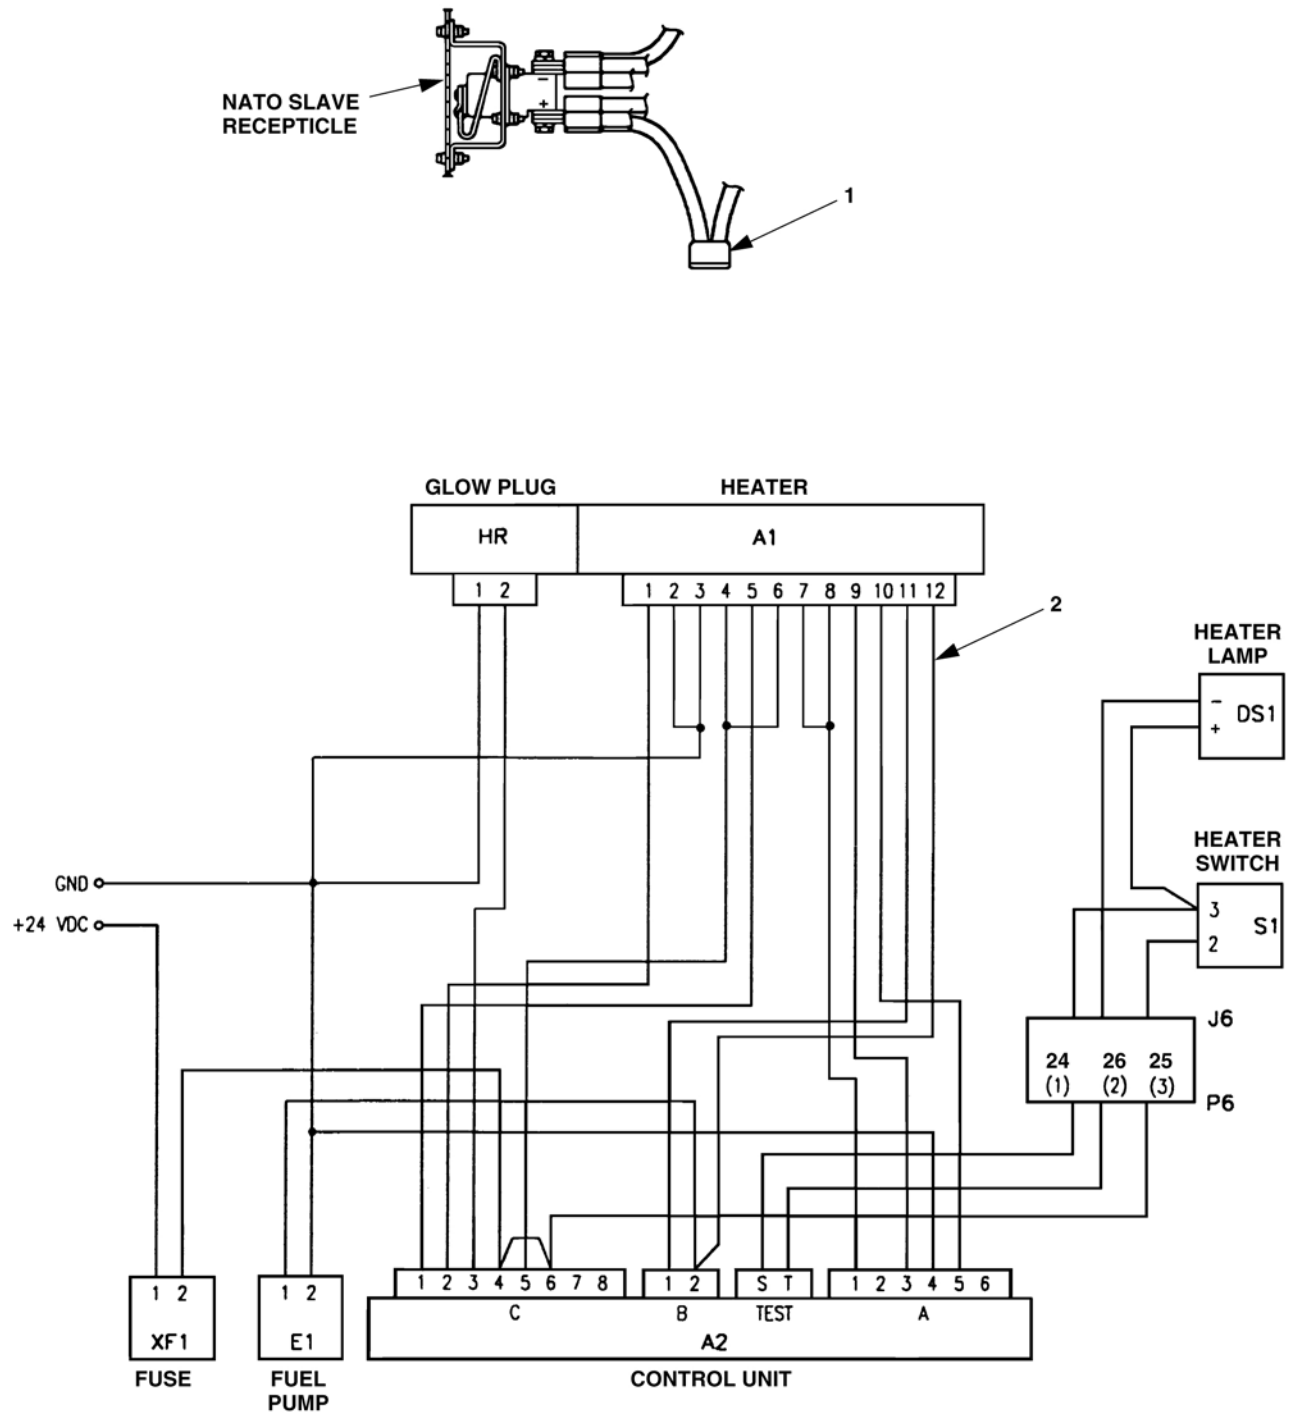
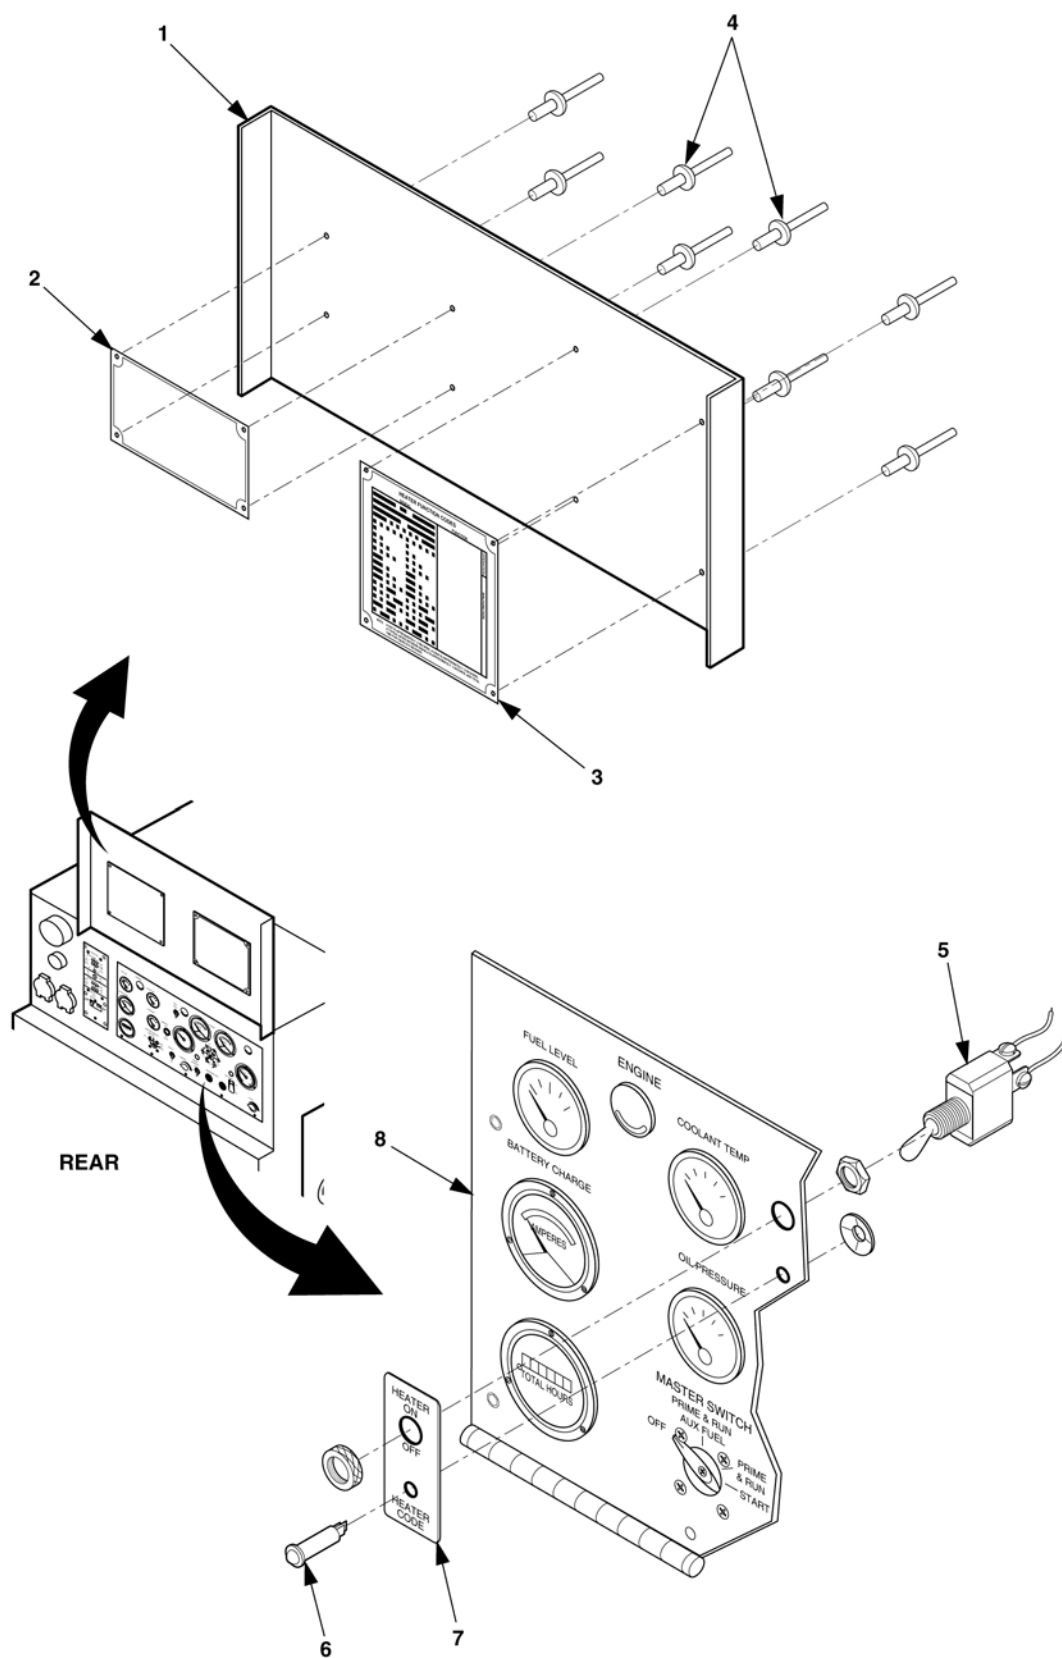

Figure 5-10. Fuse and Wiring Harness.
Figure 5-11. Cover and Instrument Panel.
45. Remove pins from P6-24, 26, and 25, Figure 5-10.
46. Install wiring harness (2), and include ground cable in accordance with wiring diagram. Secure with straps.
47. Connect fuse holder, Figure 5-10, (1) part of (2), to (+) terminal of the slave receptacle and mount on inside of bulk head with existing hardware used to attach the slave receptacle cover chain.
48. Open control panel access door (1), Figure 5-11.
49. Locate operating instruction plate (2) and heater function codes plate (3) and match and drill holes in control panel access door (1). Plates shall be readable when door is open.
50. Install rivets (4). Rivet head shall be on the outside of unit.
51. Locate heater switch label (7) and match and drill holes in control panel (8).
52. Install heater switch label (7), toggle switch (5), and indicator light (6).
53. Referencing Figure 5-10, remove connector J6 from control box, then remove pins from J6-24, 26, and 25.